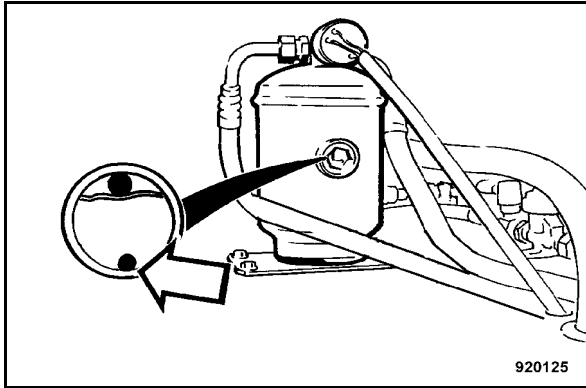

Fig. 159
- Check the moisture indication pearl (Fig. 159) inside the inspection glass of the drier/collector unit.